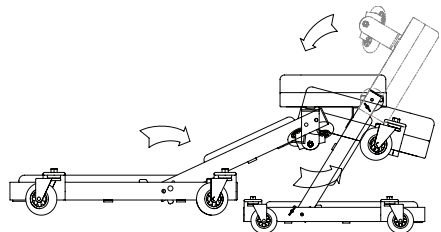

Figure 3 - Creeper configuration
3. Adjust hinged caster brackets so wheels will contact ground properly. Unlock spring loaded Lock Pins, then reverse steps 1 and 2, as shown in Fig. 3, to convert Creeper Seat into Creeper.